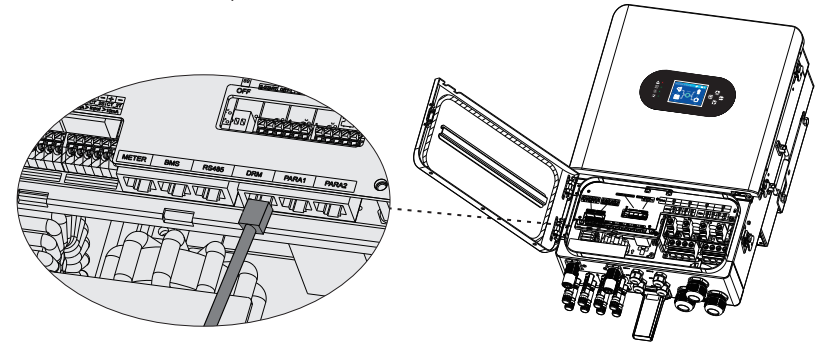

Figure 4.7-1 DRMS interface
**Step 1.** Open the latch from the right side of the machine. See Figure 4.7-1.